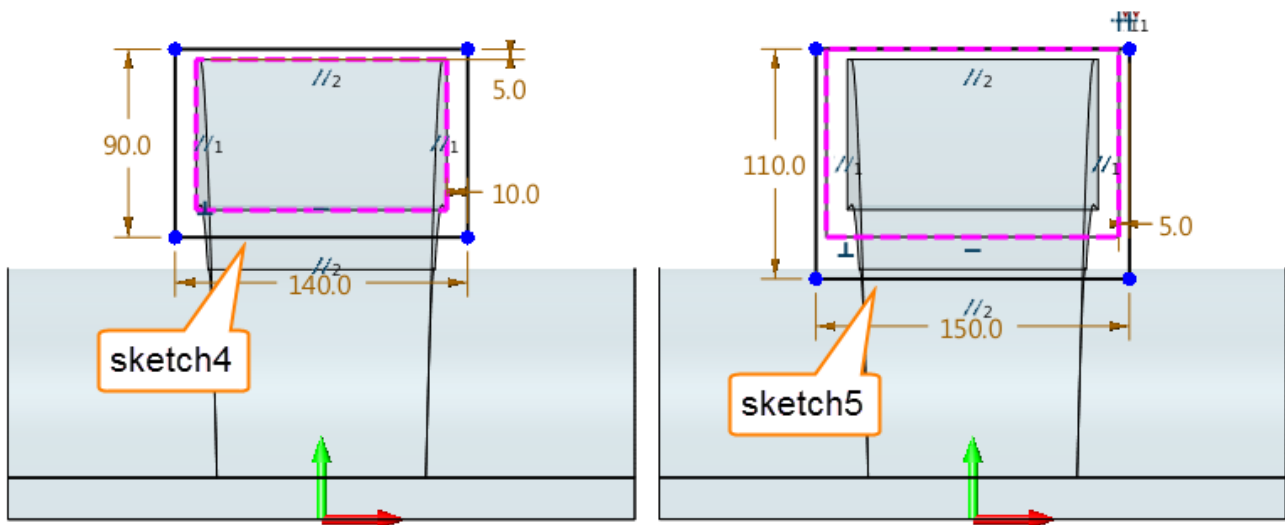

Figure 120 Loft Profiles
STEP 01 Select plane1 to draw sketch4 as loft profile1, as shown in the Figure120 on the left. Use sketch reference, offset and dimension functions to draw this sketch.
STEP 02 Select plane2 to draw sketch5 as loft profile2, as shown in the Figure120 on the right.